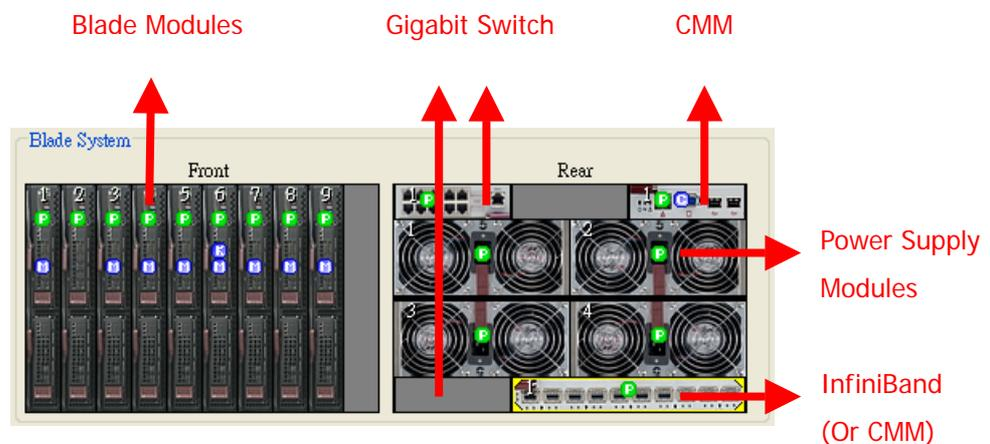
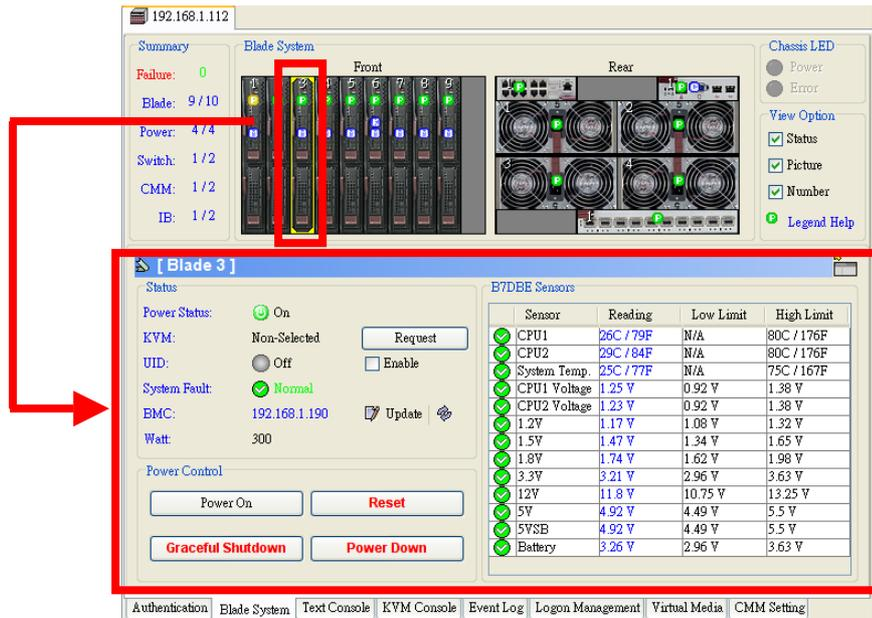
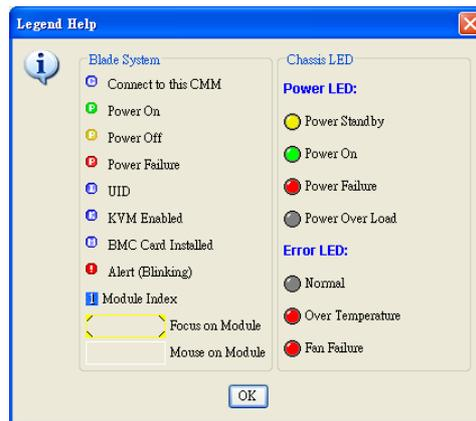

Figure 2-2. Blade Module Layout
Figure 2-3. Selected Blade Module and Corresponding Management UI
Figure 2-4. Legend Help
2. **Blade System:** As shown in Figure 2-2, the Blade System View shows both front and rear views of the blade system. The front view shows blade module status while the rear view shows the status of the power supply, gigabit switch, InfiniBand and CMM. A yellow rectangle appears around an icon when it is selected (clicked on), as shown in Figure 2-3. Each icon has a symbol to show its current status. Each SuperBlade module may display one or more symbols. Refer to the Legend Help (Figure 2-4) to determine the meaning of a symbol. (Click “Legend Help” in the View Option window at the lower right area of the screen.)